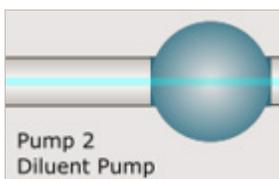

Figure 26. Pump 2 switched on.
3. **Start pump:** Tap the Diluent Pump icon to start the pump (Figure 26).